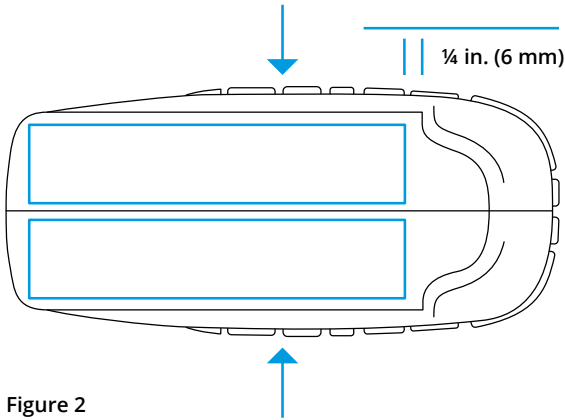

Figure 2
1. Apply a thin film of cyanoacrylate super glue to the bonding surface of the rubber sole. Adhesive should be  $\frac{1}{4}$  inch (6 mm) away from the edge of the toe recesses, see Figure 2.
3. Squeeze the two halves of the rubber sole together in the direction shown by the arrows in Figure 2.